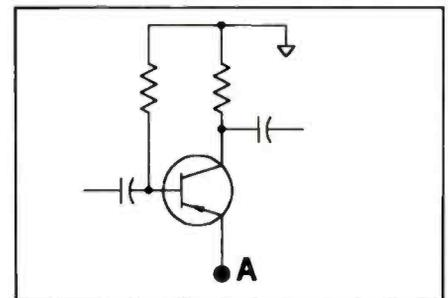

Figure 3. In this amplifier circuit, what should the voltage at point 'A' be?
10. In the amplifier circuit of Figure 3, the voltage at point 'A' should be